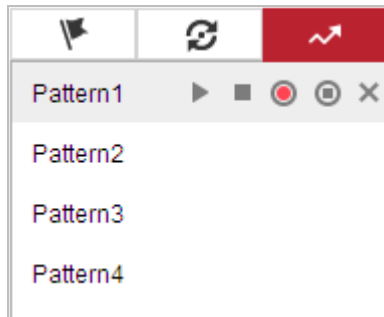

Figure 4-13 Patterns Settings Interface
2. Select a pattern number from the list as shown in Figure 4-13.